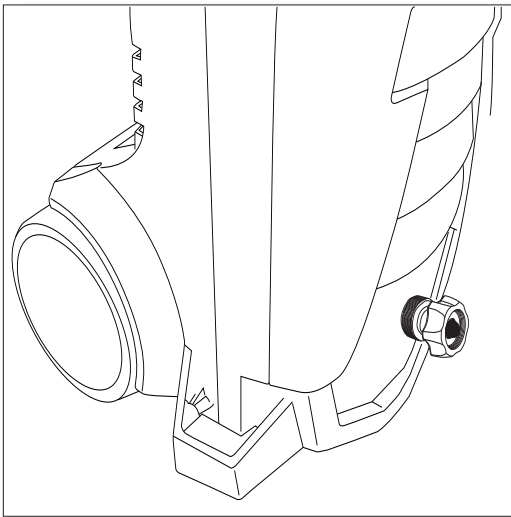

Fig. 16
- Replace the washer filter and attach garden hose to the blue collar. **(Fig. 16 & 17)**